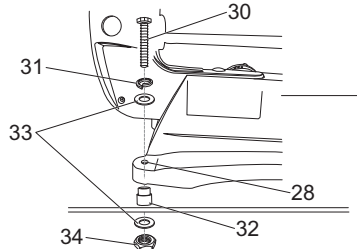

Fig. 1
- > Insert the bolts 8 x 50mm (30), spring washers M8 (31), rubber feet (32), flat washers (33) and nut (34) into the holes in turns as shown in Fig. 1.
- > Then tighten the 4 bolts (30) with 12mm spanner (not supplied).